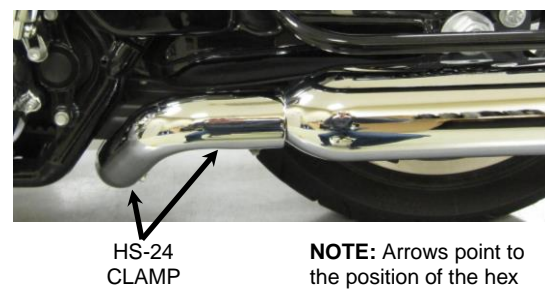

FIGURE 12
25. Place left rear heatshield in position on the crossover assembly on the left side of the motorcycle. (Hint: Spread the hose clamps apart slightly to make it easier to slide them over the headpipes.) Align the heatshield with the crossover assembly and snug the clamps but **DO NOT TIGHTEN** at this time. See **FIGURE 12**.